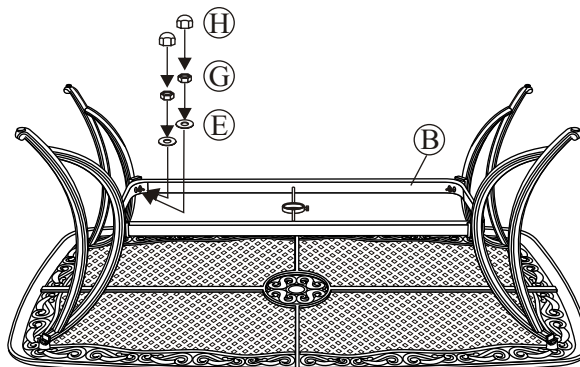

Fig.2
2 **Critical Step: The "U" metal plates must be installed in the proper location.** Read this step and carefully examine. Insert the "U" metal plate, so that the "U" bar and rocker plate are between both sides of the "U" metal plate. Make sure that the holes in the "U" metal plate are completely aligned with the holes in the "U" bar as shown in **Figure 2**. Guide the bolts through the holes on the top side of the "U" metal plate, through the holes in the "U" bar portion of the chair, through the holes in the rocker plate and then, most importantly, through the holes in the bottom side of the "U" metal plate. It is very important that the holes in the bottom portion of the "U" metal plate be placed directly beneath the holes in the rocker plate. Add a spring washer and a nut to each bolt as shown in **Figure 2**. **Hand tighten nuts 3-4 revolutions only.** Repeat the same procedure on the other side.
Step 3: Attach a leg to the leg connector bracket by carefully guiding the bolts already in place on the table legs (each leg has two bolts) through the holes in the leg connector bracket. Add a washer and a nut to the end of each bolt as shown in Fig.2. **Hand tighten only. Do not tighten completely.** Repeat on the other three legs.